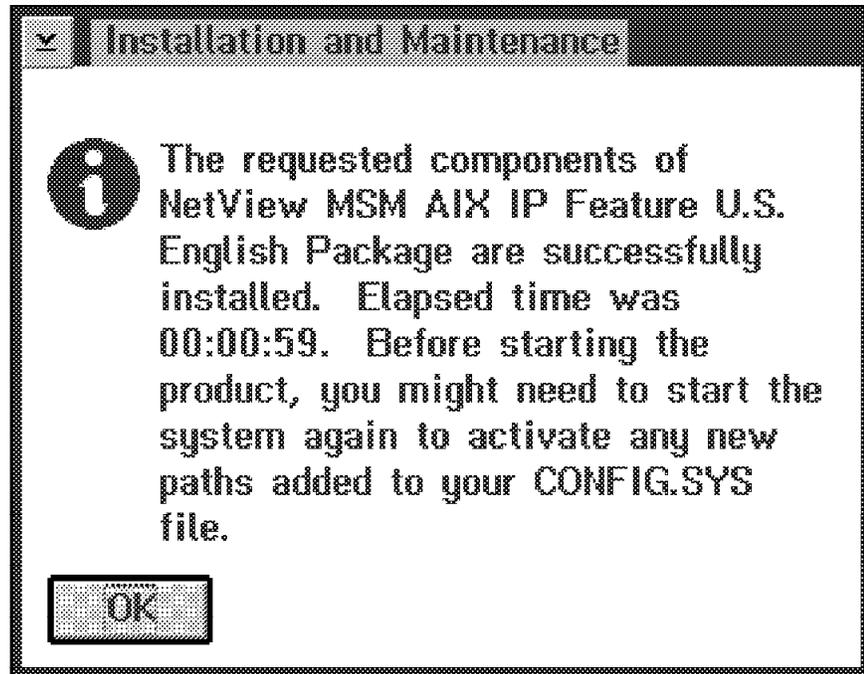

Figure 124. Completing Installation
- When the installation has finished, you get the window shown in Figure 124 on page 129.